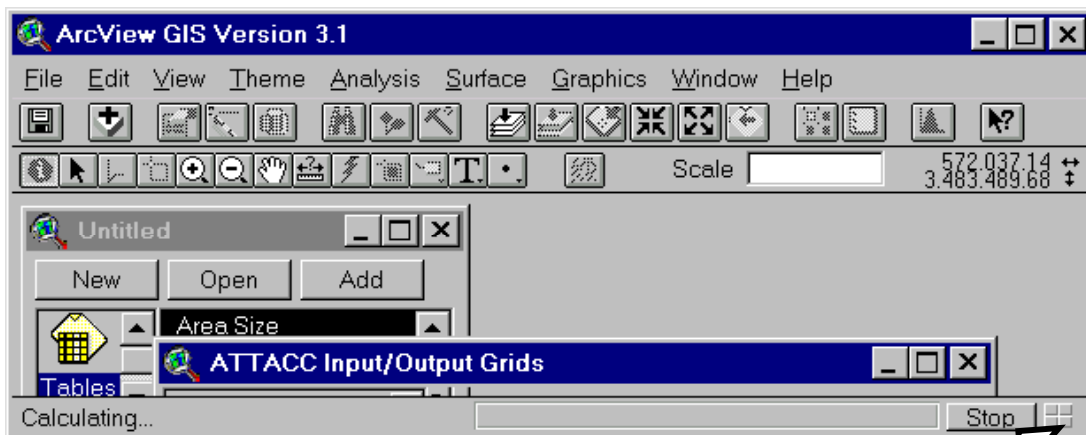

Figure 9. ArcView <Stop> button to terminate ATTACC LCM program.
- To terminate the VSF/LCF Calculator program before completion, press the *<Stop>* button on the lower right hand corner of the ArcView program window. Figure 9 shows the *<Stop>* button in a typical ArcView program window.